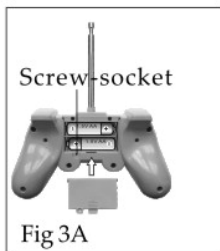

Fig 3A
1. Open the cover of battery case located in the back of controller, inserts 2 pcs of 1.5V AA batteries into the battery case, and then screw the cover (Fig 3A).